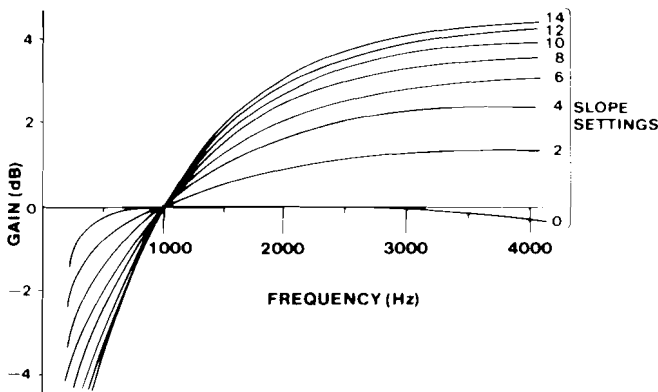
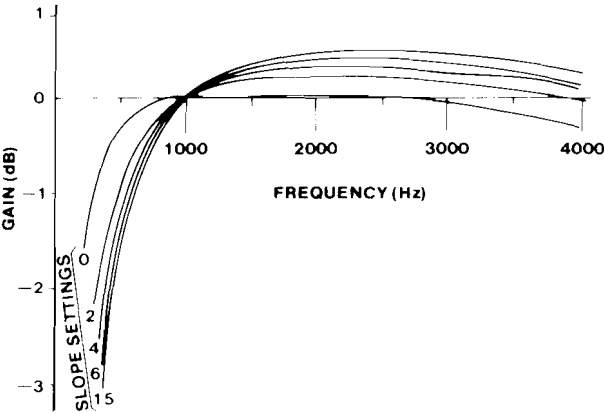

figure 4. Typical response curves for receive and transmit equalizers in slope mode, nonloaded cable
figure 5. Typical response curves for receive and transmit equalizers in slope mode, loaded cable
2.06 Figures 4 and 5 show typical response curves for the 309B-equivalent equalizer in the slope mode. Figure 4 shows the curves for non-loaded cable, while figure 5 shows the curves for loaded cable. For comparison purposes, all frequency-response curves in both figures are drawn with the same 0dB-gain reference point (1004Hz). Actually, all of these curves except those for a *SLOPE* switch setting of 0 are raised above the 0dB level at 1004Hz by as much as 11.4dB. The exact amount by which a particular curve is raised depends upon the *SLOPE* and *NL* (nonloaded/loaded) switch settings selected. These amounts are listed in table 1.